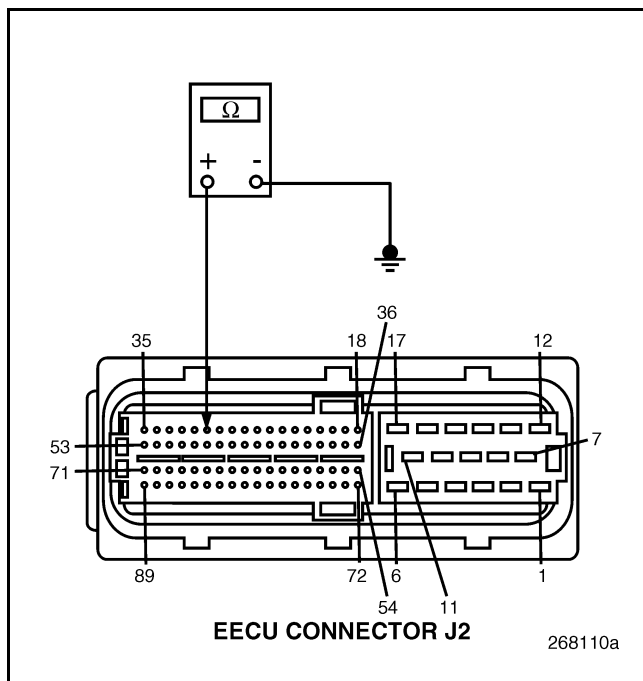

Figure 829
4. Check for continuity between EECU harness connector J2, pin 30 and a good ground (see Figure 829).